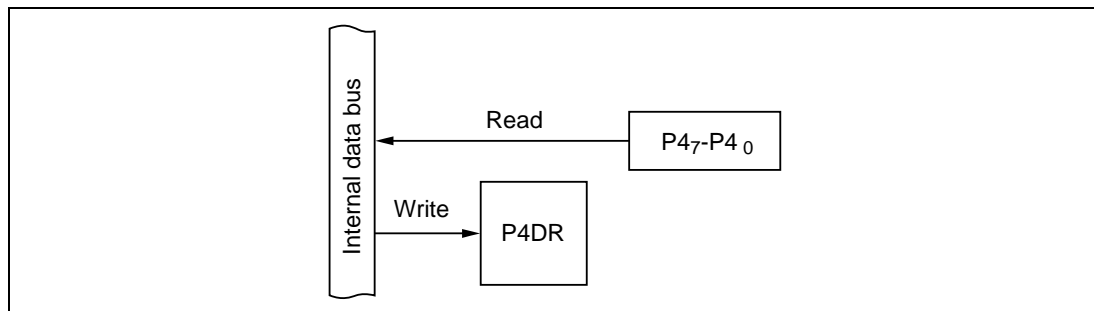

Figure 10-22 Input Port (Modes 1 to 7)
(1) Input Port (Modes 1 to 7): Figure 10-22 shows a block diagram illustrating the general-purpose input function. Table 10-15 indicates register read/write data. Values written in the port 4 data register (P4DR) have no effect on general-purpose input lines. When read, P4DR returns the value at the pin.